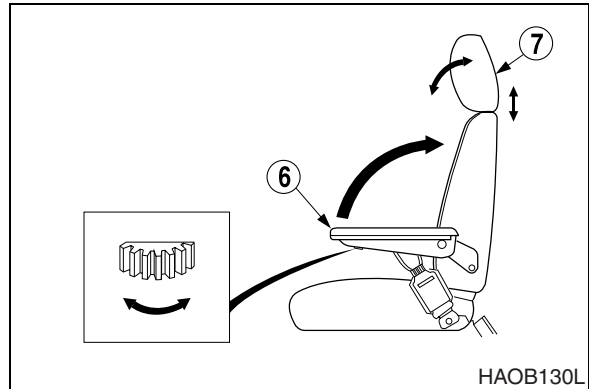

Figure 84
6. ANGLE ADJUSTMENT OF ARMREST (FIGURE 84)
Adjustment angle of left and right armrest is done by turning a dial (6, Figure 84) in bottom of armrest. When you adjust the angle, manually raise the armrest before turning the dial.
7. HEADREST (FIGURE 84)
The headrest (7, Figure 84) can be adjusted forward/backward and up/down. Move it by holding both sides.